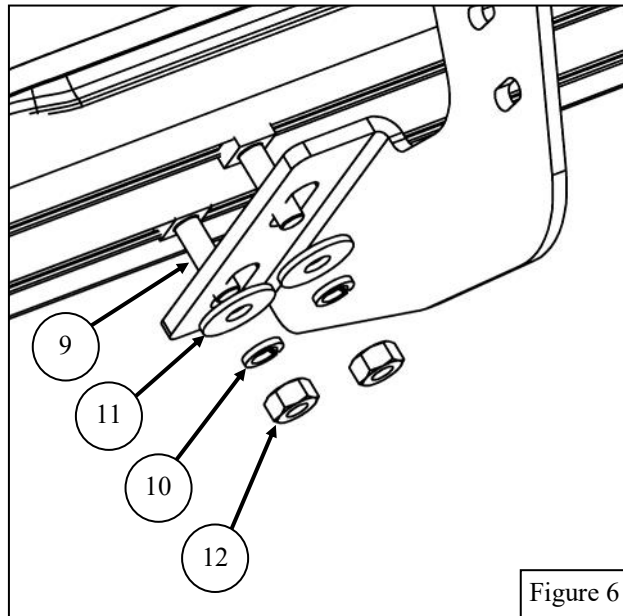

Figure 6
6. Lay the Step Bars (**items 1 and 2**) on top of the brackets.
7. Slide (12) M8 square head bolts (**item 9**) through slots on the bottom of the step bars.
8. Loosely install (12) M8 flat washers (**item 11**), (12) M8 split lock washers (**item 10**), and (12) M8 hex nuts (**item 15**). See **Figure 6**.